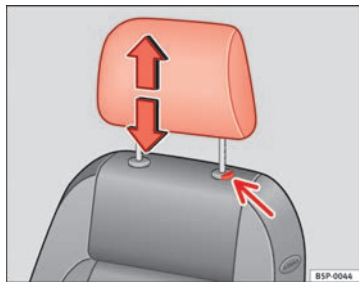

Fig. 91 Adjusting and removing the head restraints
- Press the button ⇒ Fig. 91 (arrow).